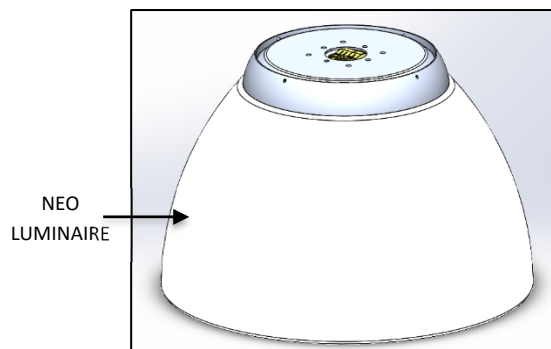

FIG.2 NEO LUMINAIRE (PRE-ASSEMBLED)
1. NEO LUMINAIRE (Pre-assembled as shown in FIG. 2)